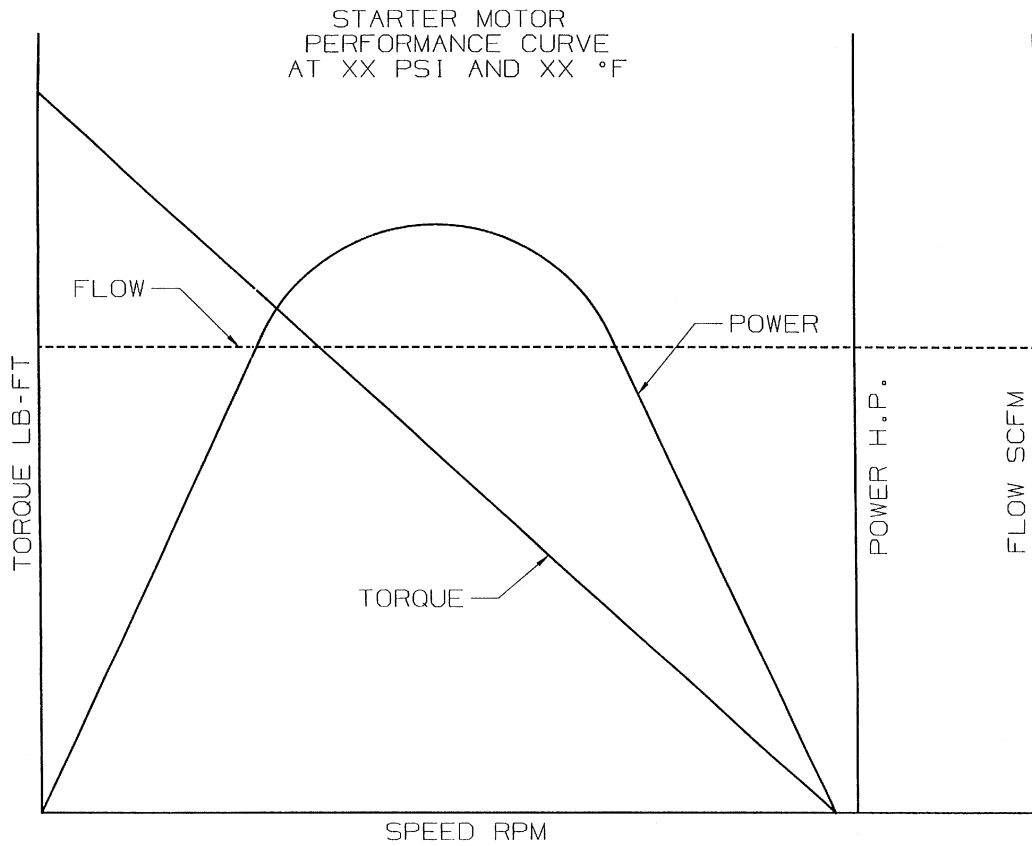

FIGURE 2—STARTER MOTOR PERFORMANCE CURVES AT SPECIFIC PRESSURE AND AMBIENT TEMPERATURE
3.1.1 TEST METHOD A—Run the starting motor at various discrete torque loads and record the air inlet and exhaust pressure, air temperature, torque, air flow, and speed. Sufficient points should be recorded and a linear regression method should be used to generate smooth torque, power, and flow curves from the respective data points. A typical performance curve is shown in Figure 2.